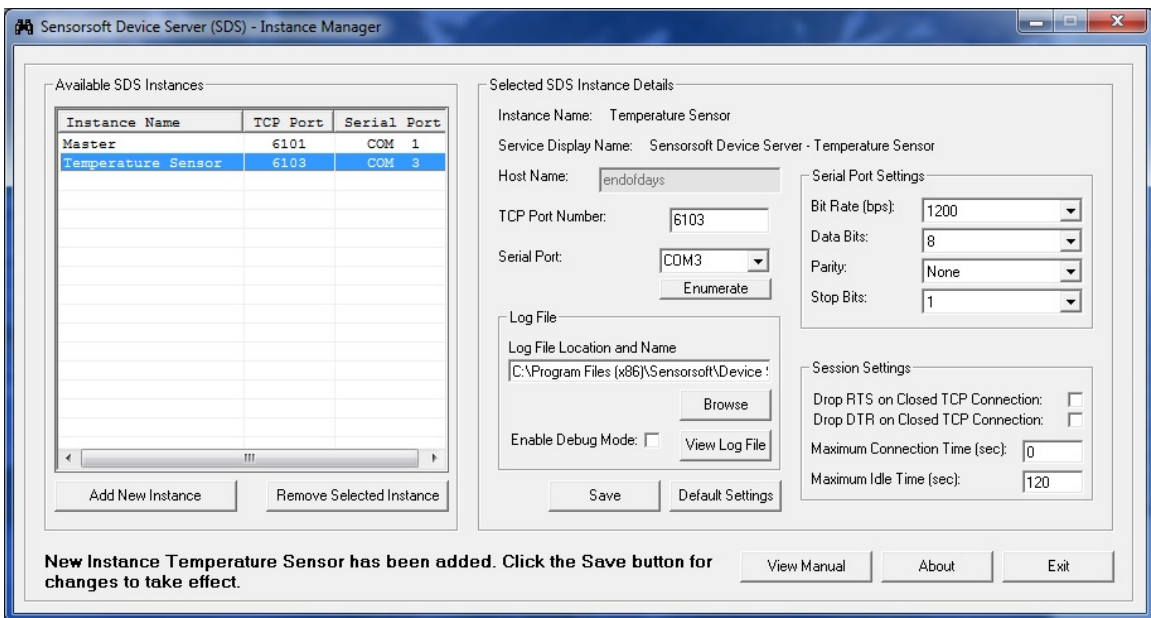

Figure 4
5. After clicking on the 'Create Instance' button, the new SDS instance will be created with the default settings. The new instance name, TCP port and serial port will be displayed in the Available SDS Instances panel located on the left half of the SDS Instance Manager app as shown in the Figure 4. A folder with the instance name will be created as a subdirectory in the SDS base installation folder. In the Windows Service Control Manager, the service name for the new instance will be "SDS\_<Instance Name>" and the display name will be "Sensorsoft Device Server - <Instance Name>". At the bottom of the SDS Instance Manager window a message like the following will appear **"New Instance <Instance Name> has been added. Click the Save button for changes to take effect."** After seeing this message you can change the settings for the new SDS instance. Click the 'Save' button to create the new instance, save its settings and start the service.